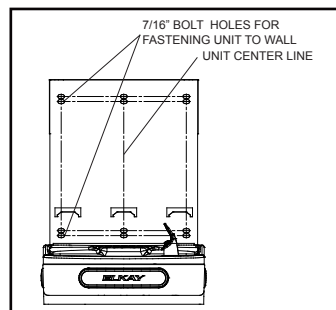

Figure 2
- Install wall mounting plate to wall using six (6) 7/16" oval mounting holes (mounting bolts not included) (See Fig. 2). Use appropriate fasteners for your wall type.